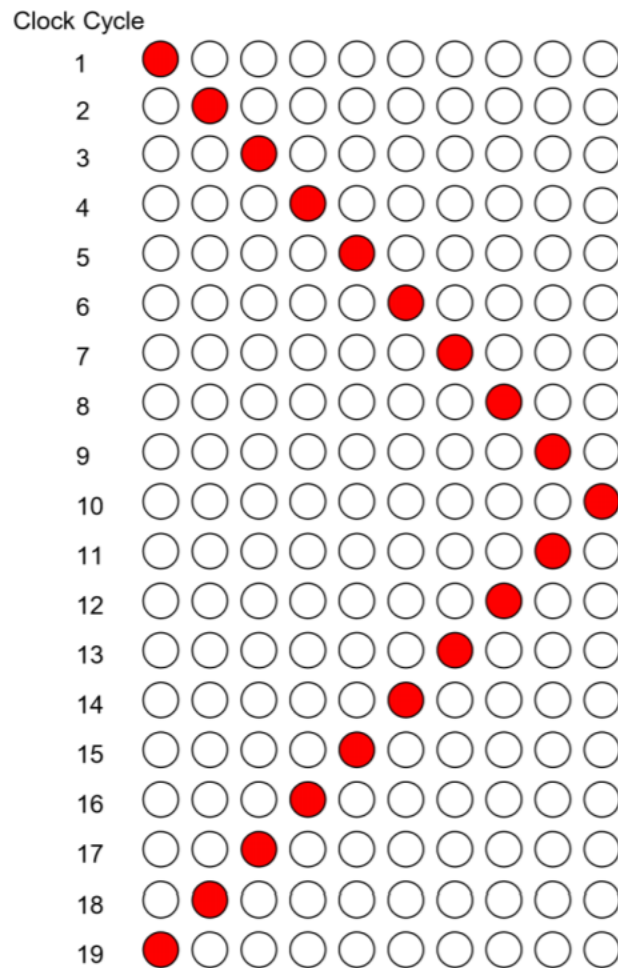

Figure 24: Example of Knight Rider sequence
- with the LED taking about 1 second to blink all 10 LEDs in one direction. See Figure 24 for the sequence.